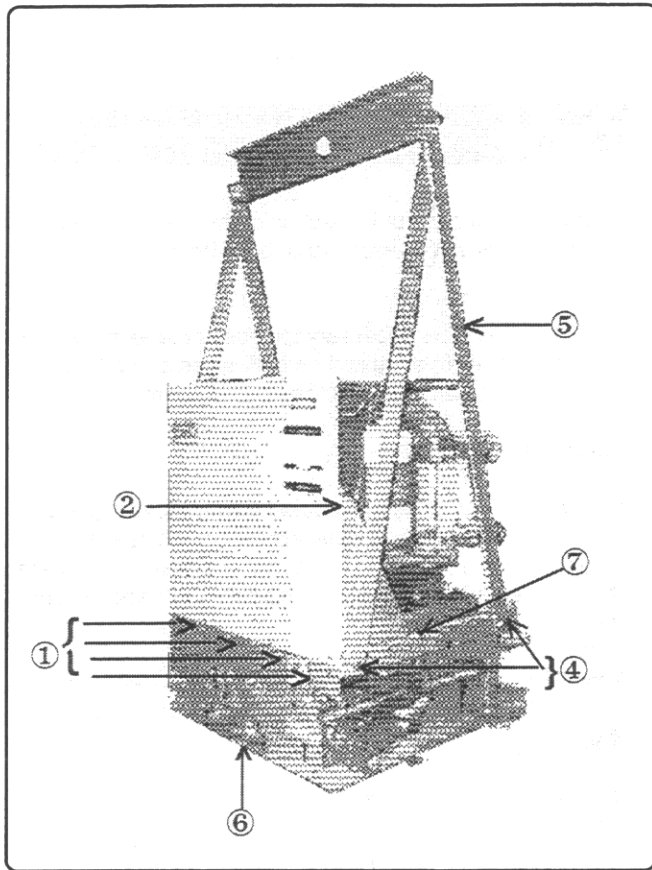

Fig. 1 - Circuit Breaker Assembly with Lifting Yoke Installed
Referring to Fig. 1, if it is necessary to raise or move the breaker, attach a lifting yoke (5) at point 4 on both sides of the truck, or a fifth wheel at point 6 to transport the breaker as required.
The front cover assembly (2, fig. 1) must be removed for access to and inspection of the vacuum interrupters, and their associated adjustments.
Removing Front Cover (See Fig. 1)
Installing Front Cover (See Fig. 1)